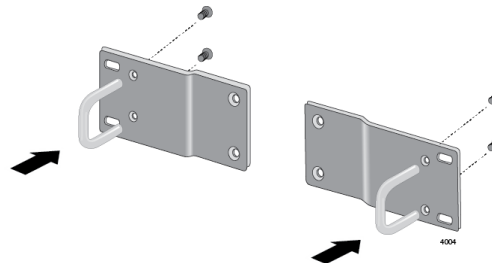

Figure 34. Attaching Handles to Brackets
2. Attach the handle to the short bracket with M3x6mm screws using a Phillip-head screw driver as shown in Figure 34.